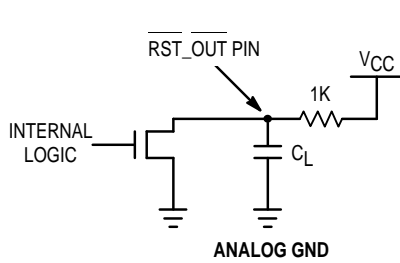

Figure 4. RST\_OUT Test Circuit
- The  $\overline{RST\_OUT}$  pin is an open drain N-Channel output. Therefore an external pull-up resistor must be provided to pull up the RST\_OUT pin when it goes into the high impedance state (after the MC88916 is phase-locked to the reference input with RST\_IN held high or 1024 'Q' cycles after the RST\_IN pin goes high when the part is locked). In the  $t_{PLZ}$  and  $t_{PZL}$  specifications, a 1K $\Omega$  resistor is used as a pull-up as shown in Figure 4.